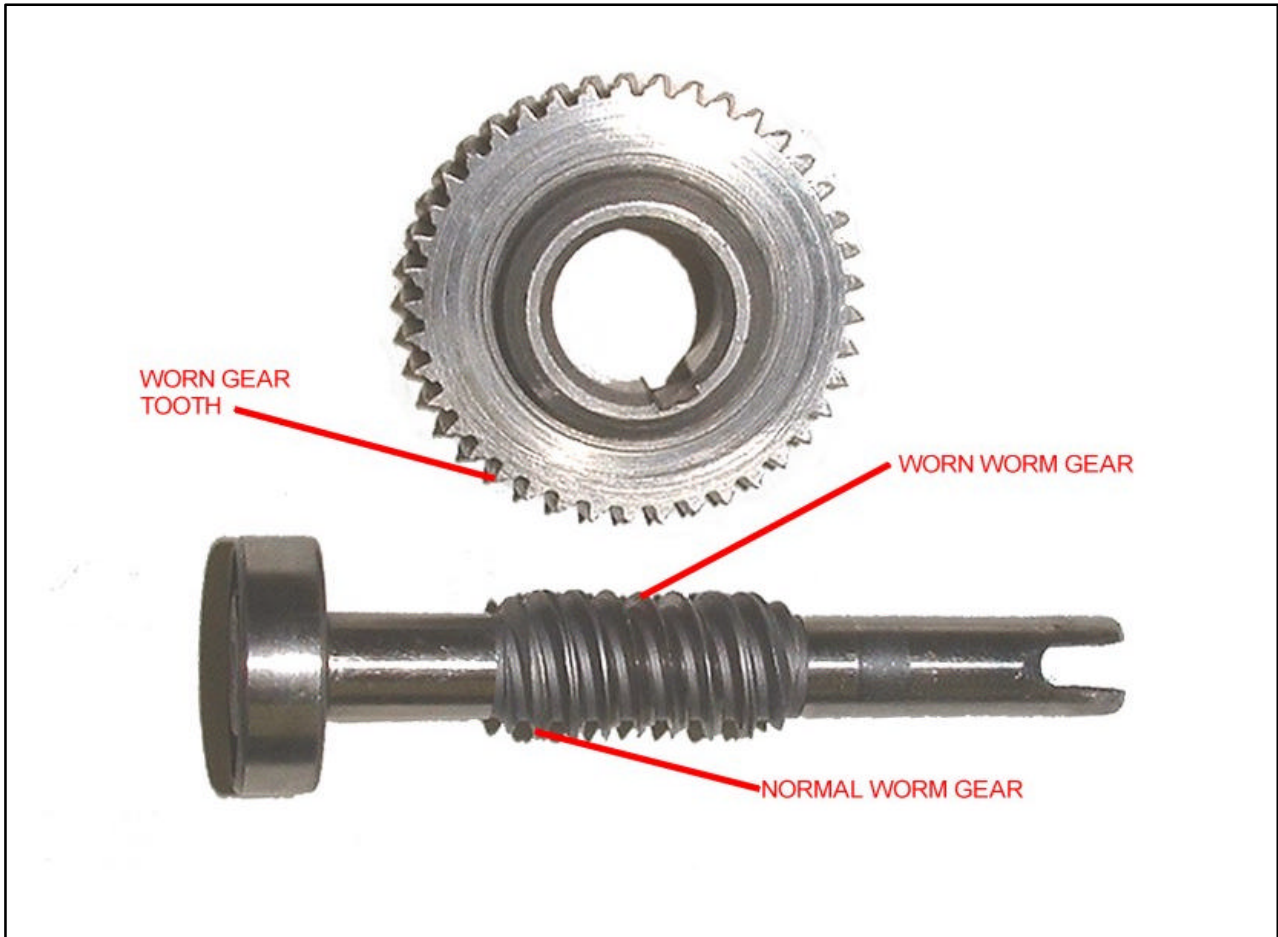

FIGURE 1
4. Visually inspect gears for wear as illustrated in Figure 1.